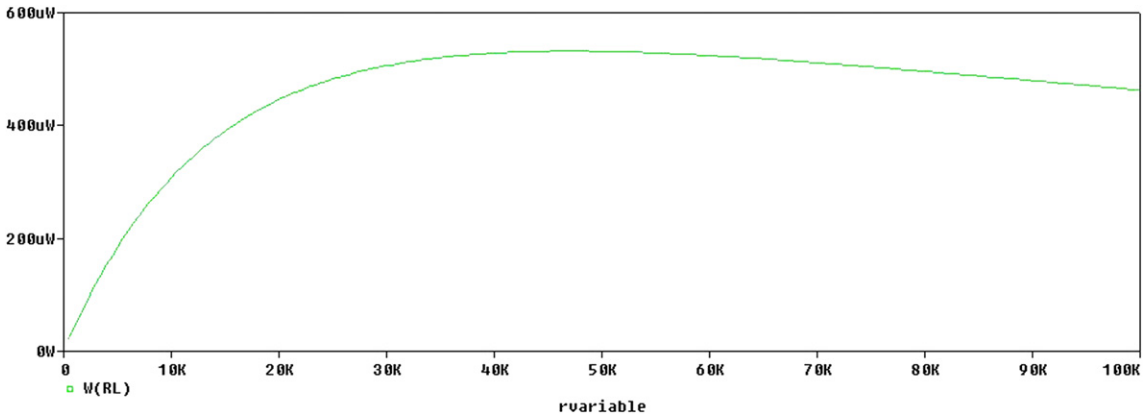
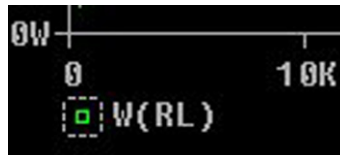

FIGURE 5.11
FIGURE 5.12
9. Run the simulation (**PSpice > Run**) . You should see the power dissipation curve in Figure 5.11.
10. From the curve in Figure 5.11 the cursors can be turned on to determine the value of load resistance for maximum load power. Display the cursor, **Trace > Cursor > Display**  or . In Probe, there are two cursors and they follow either the left mouse button (lmb) or the right mouse button (rmb). When you first select **Cursor > Display**, a dashed white box will appear around the symbol used for the trace name (Figure 5.12).